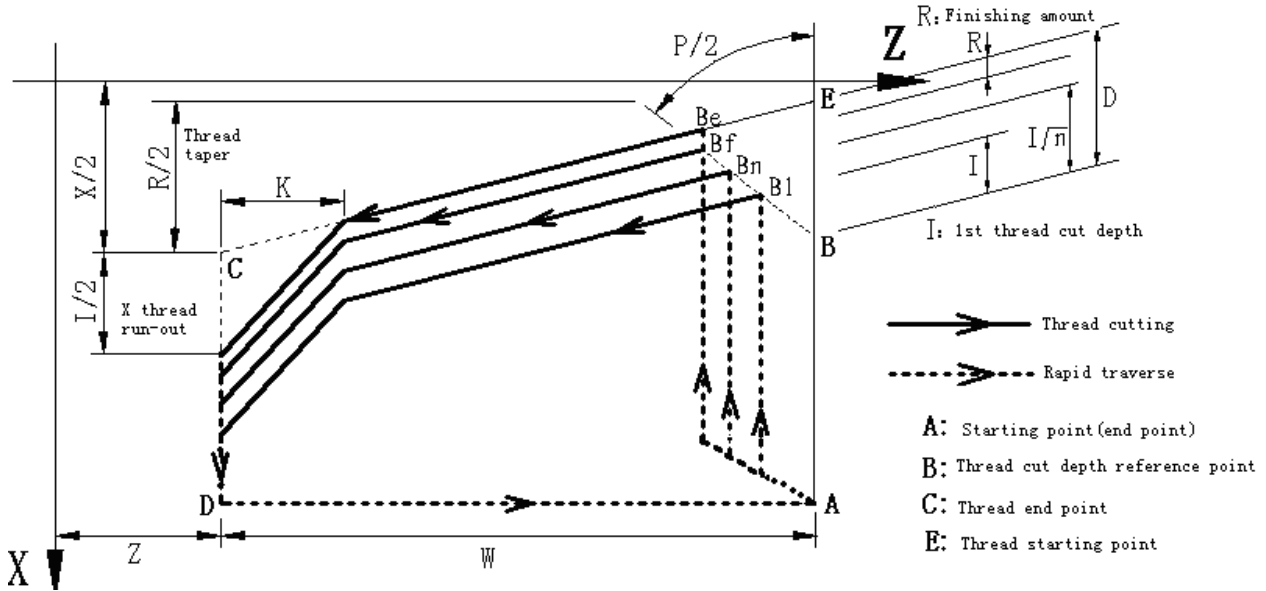

Fig. 4-47
Field definitions, data range are the same those of G92 as Fig. 4-47:
Relative definitions: (as Fig. 4-47)
1. Using G76 thread cycle cutting command group can complete the specified tooth height(total cut depth) of the thread cutting by multi thread roughing and finishing; when the thread angle defined by the command ① is not 0° , the cut-in point of thread roughing moves to the thread tooth bottom from the thread tool top and the angle between neighboring two teeth is the defined thread angle.
4. When the thread angle defined by G76 ① is not 0, X, Z move simultaneously, the thread axis reaches the cut-in point, and then the single-axis for non-thread axis moves to the cut-in point in G76 ② thread cycle from the starting point to the cut-in point; other cut path is the same that of G92 as Fig. 4-47.